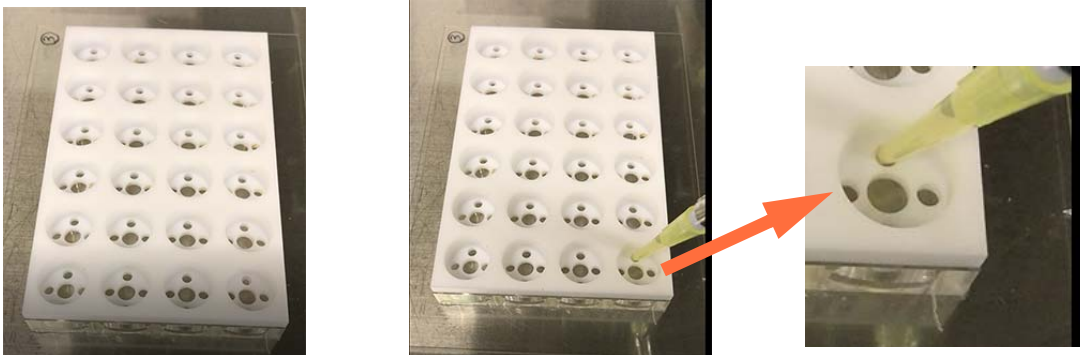

Figure 4. Placing the CellSpotter onto the MEA plate (left) and remove the SureBond from a well through the side-hole (middle, right).
- Mount the CellSpotter onto the MEA plate (Figure 4, left)
- Remove the **SureBond** from each well in the Presto MEA plate through the side-hole (Figure 4, right).